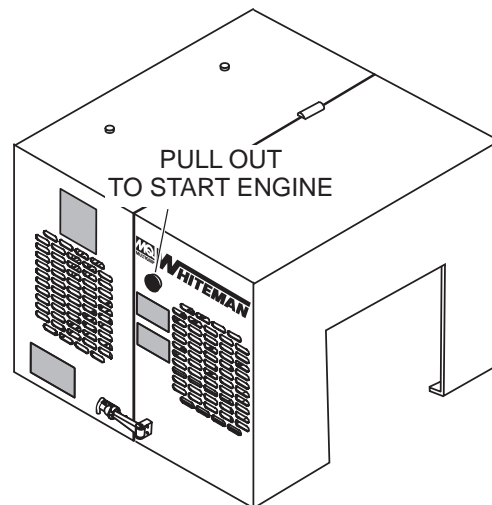

Figure 18. Start/Stop Switch
5. The main start/stop switch located on the engine cover (Figure 18) is used to start and stop the engine. Pull this switch outward to start the engine.
2. Push the main start/stop switch (Figure 18) inward to stop the engine.